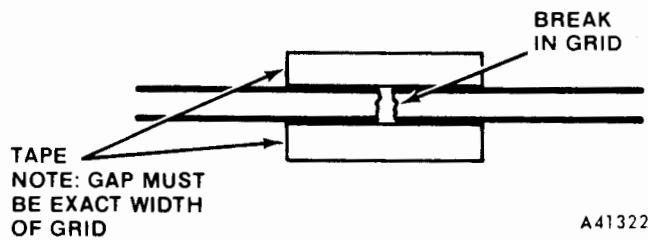

Fig. 3-105 Tailgate Window Defogger Grid Repair
- (1) Using suitable marking pencil, mark location of broken or open grid on exterior surface of glass.
- (2) Using fine steel wool, lightly rub area to be repaired (inside of tailgate window). Clean area with isopropyl alcohol (rubbing alcohol).
- (3) Attach two strips of cellulose tape (inside of tailgate window) above and below break in grid as shown in figure 3-105.